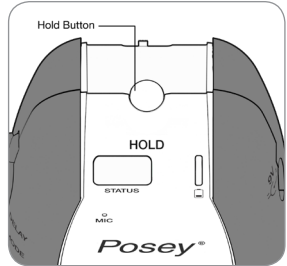

Fig. 11
1. Press **HOLD** button on the top of alarm (Fig. 11). The **STATUS LED** will begin flashing RED indicating the alarm is in HOLD mode.
1. Press **HOLD** button on the top of alarm (Fig. 11) for 3 seconds. The **STATUS LED** will begin flashing RED indicating the alarm is in **HOLD** mode and an audio cue will say “5 minute HOLD activated”.